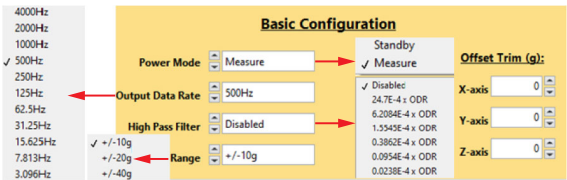

Figure 12. Basic Configuration
- **Power Mode.** Ensure that the power mode is set to **Measure** when capturing data (see Figure 12).
- **Range.** There are three user selectable ranges available for measuring acceleration. Users can adjust the range from ± 2 g to ± 8 g for the ADXL355 and from ± 10 g to ± 40 g for the ADXL357 (see Figure 12).
- **Offset Trim (g).** The user has the option to set the offset value for each axis in the **Offset Trim (g)** section. This feature allows the user to eliminate offsets in any of the axes, providing the trimmed data as the resulting output (see Figure 12).